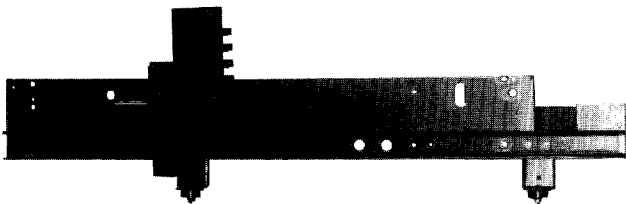

Fig. 23 Left Side Track
- (b) Mount left and right side tracks (Figs. 23 and 24), leaving hardware loose, with two (2) .25" x .75" (6.35mm x 19.05mm) self tapping screws in front of each track. Use one (1) .25" x .75" (6.35mm x 19.05mm) self tapping screw through the track and upper hole in each rear track mounting bracket.
- (c) With a .125" (3.175mm) thick spacer between rear track mounting bracket and track, use one (1) .25" x .75" (6.35mm x 19.05mm) self tapping screw through the track and lower hole in each rear track mounting bracket.